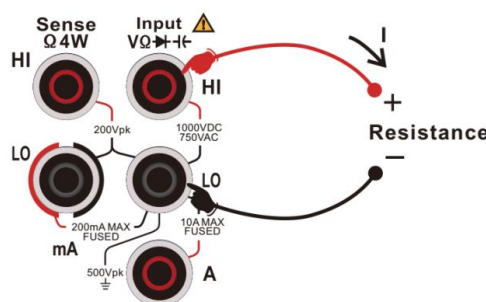

Figure 2-14 Connection of 2-wire resistance measurement
- 2) Connect the test leads to the measured resistance as Figure 2-14, connect the red test lead to terminal HI, and the black one to terminal LO.